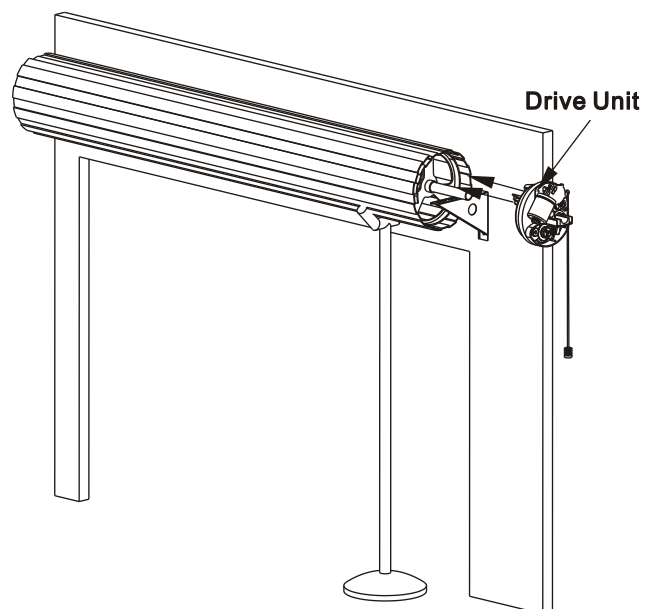

Fig 8
- 2.3 Place a suitable prop under the door as close to the edge (to which the drive unit is being fitted) as possible. The prop should be adjusted so that it sits firmly under the door. (Fig.8)